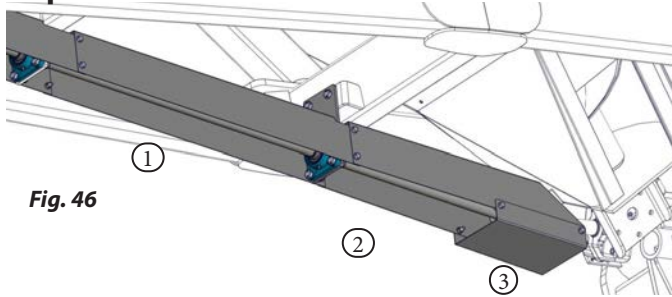

Fig. 46
- Attach the final 3 driveline shields according to Fig. 46.
- Use (14) M10 x 25 hex bolts.